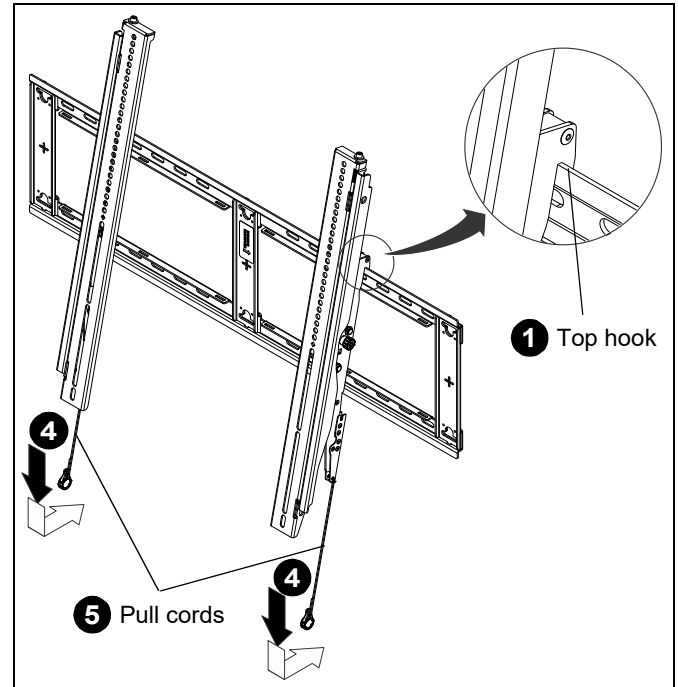

Figure 14
1. Hang screen onto the top rail of the mount (U). (See Figure 14)
- **RXF3:** Hang top hook of interface brackets (S and T) onto the top rail of the mount (U). (See Figure 14)
- **RXT3:** Hang top hook of interface brackets (Q and R) onto the top rail of the mount (U). (See Figure 14)
4. Pull downward on the pull cords and swing inward toward wall, latching interface brackets to lower rail and fastening bottom of screen to the mount. (See Figure 14)
5. Attach end of pull cord (a magnet) to mount so it does not extend beyond bottom of screen. (See Figure 14)